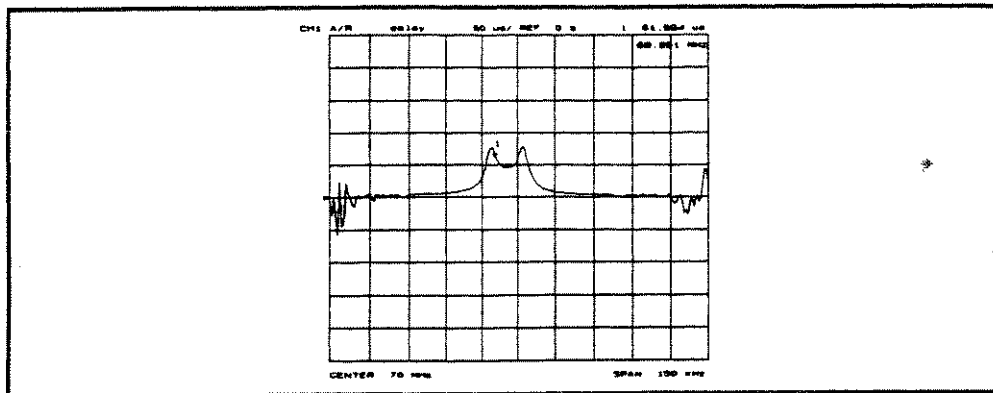

Figure 9-9. Group Delay Format
**DELAY** (DELA) selects the group delay format. Activated markers give values in seconds. Figure 9-9 shows the bandpass filter response formatted as group delay. When power sweep is selected, this selects the delay format using delta power instead of frequency. Group delay principles are described in the next few pages.